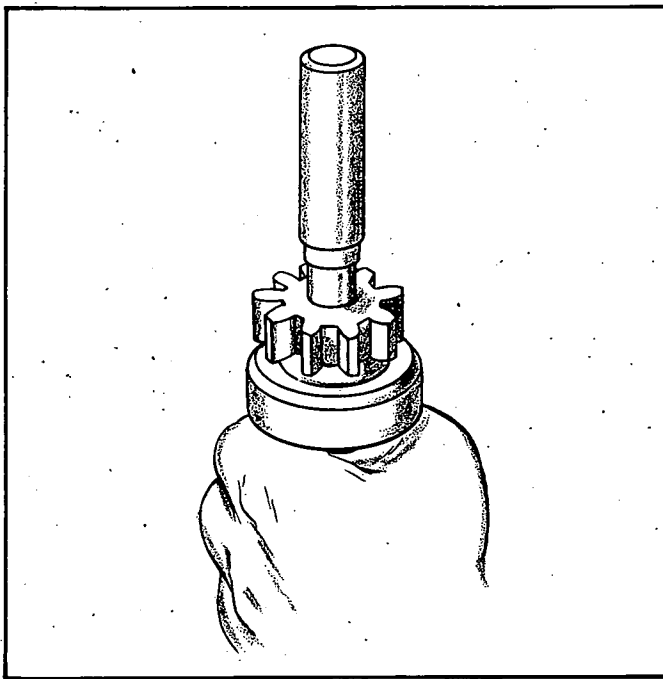

FIGURE 30. REMOVING RING
4. Remove the ring after driving the pinion stopper toward the pinion gear using a cylindrical tool as shown in Figure 30. The overrunning clutch and the pinion stopper should be removed simultaneously.